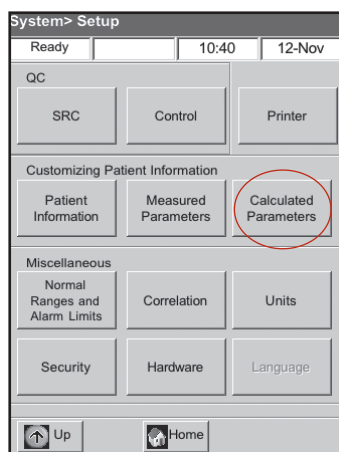

Figure H-12: System > Setup screen
3. From the Setup screen, tap **Calculated Parameters** (Figure H-12).